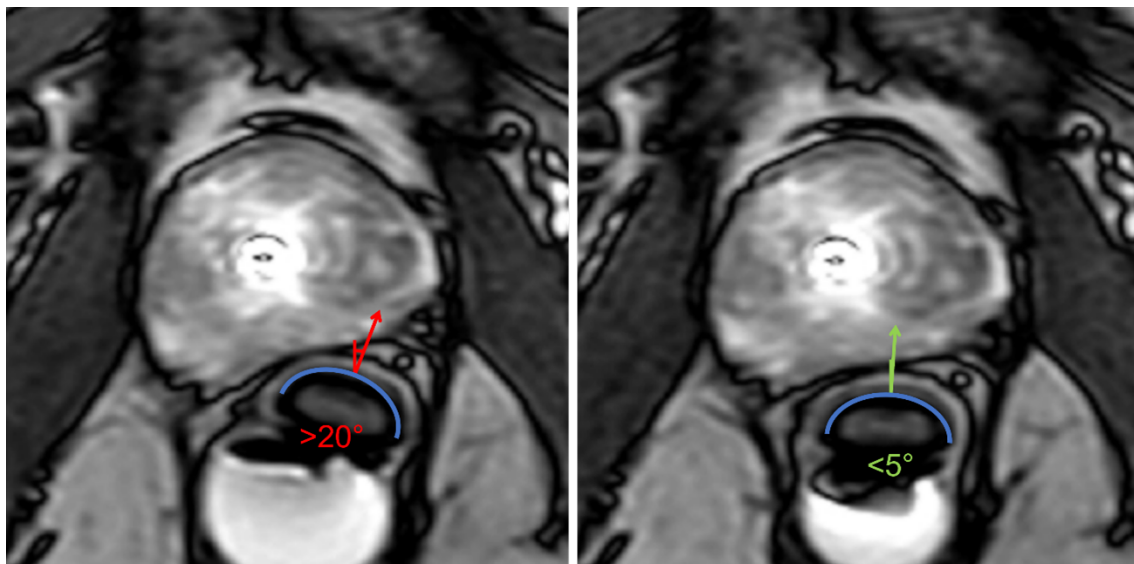

Figure 29: Axial images depicting ECD oriented incorrectly (left, rotated more than 20 degrees) and correctly (right, facing up towards the prostate)
- b. The orientation of the cooling window should face the prostate (anterior), as confirmed on the axial MRI (Figure 29).